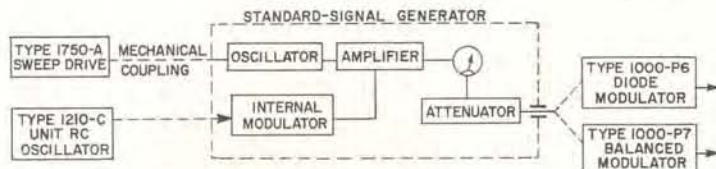

FIGURE 2. Modulation methods.
(3) For sweeping, the TYPE 1750-A Sweep Drive is recommended. This mechanical device is used to sweep carrier frequency back and forth over a narrow range, in order to plot or to display the amplitude-vs.-frequency characteristics of components and networks. The shaft of the sweep drive is connected by a flexible coupling to the shaft of the frequency-determining element in the radio-frequency oscillator as indicated schematically in Figure 2. Reciprocating rotation up to 300 degrees can be imparted at rates of 1 per second. The corresponding percentage variation in frequency is listed for each one of the General Radio Signal Generators.